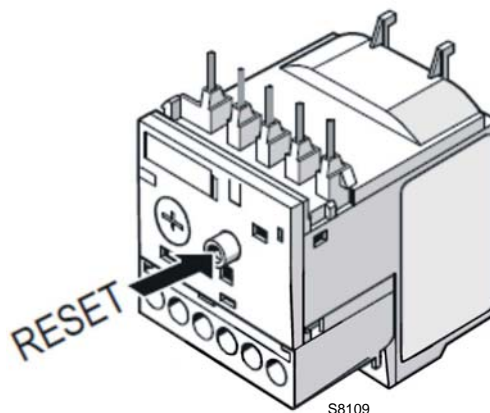

Fig. 33
- To reset, in the case of an intervention of the thermal relay, press the button “RESET” (Fig. 33).